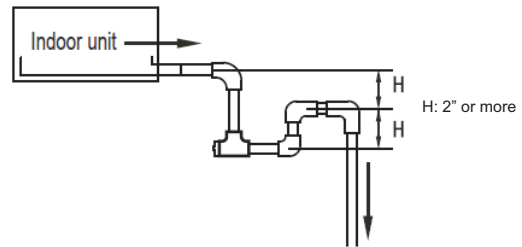

Fig. 14 —Trap at Piping End
- It is recommended that the indoor unit should be equipped with one U-bend and ensure that there is enough space around the U-bend for cleaning and maintenance. See Fig. 14.